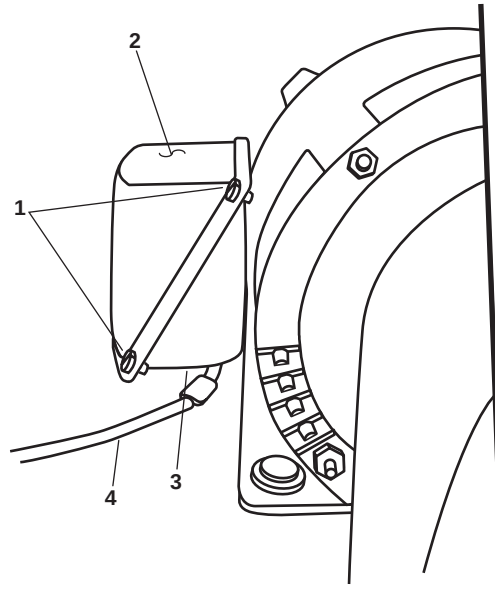

Figure 1. Electrical Junction Box
1. Remove the screws (figure 1, item 1) and remove the cover (figure 1, item 2) from the junction box (figure 1, item 3).
2. Use a multimeter to check for voltage at the wiring terminals in the in the junction box (figure 1, item 3). If voltage is present, ensure that the proper circuit breaker is set to OFF, locked out, and tagged out (FM 55-502). If no voltage is present, continue with the procedure.
3. Label and remove the wiring (figure 1, item 4) from the junction box (figure 1, item 3).